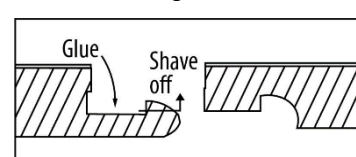

Figure 6
- Using a small plane or utility knife, carefully shave off the ledge of the groove (**Figure 6**).